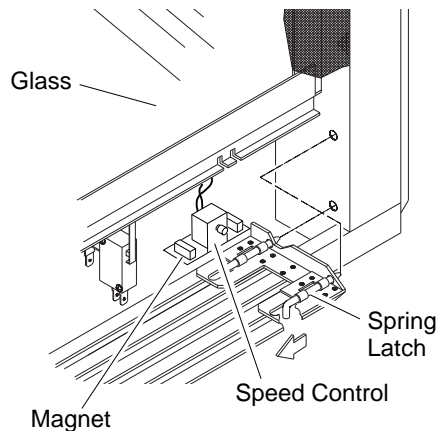

Figure 30 - Blower Speed Control Location
1. Place speed control switch assembly on the bottom of the inside of the firebox (see Figure 30). The assembly is equipped with magnets on the left and right to properly anchor it to the firebox.